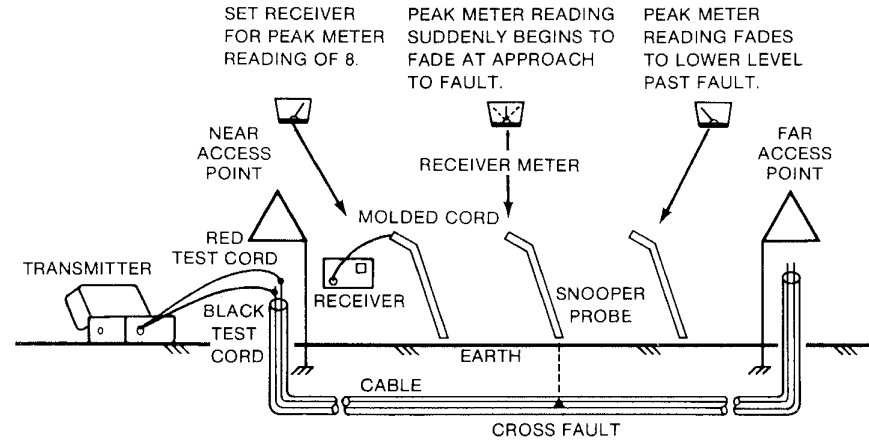

Figure 3-6.
4. Plug the jack end of the red/black test cord into the TRACING TONE jack receptacle on the transmitter (see Figure 3-6).